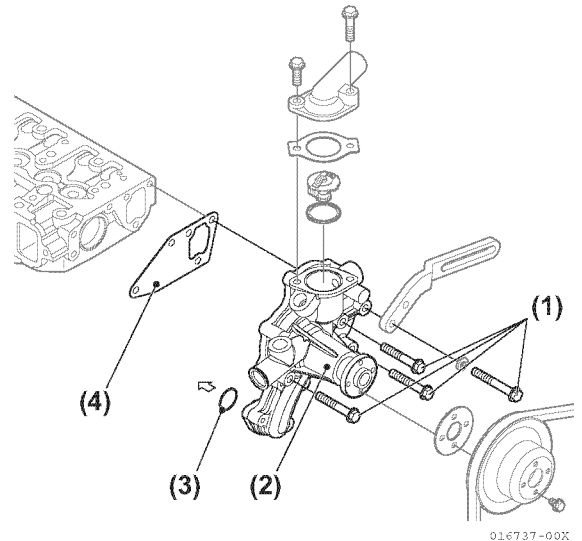

Figure 7-28
5. Remove four bolts (**Figure 7-28, (1)**) and remove coolant pump (**Figure 7-28, (2)**). **NOTICE:** Use caution when removing old gasket to avoid damage to the sealing surface of the cylinder block.
6. Remove the old gasket (**Figure 7-28, (4)**) and clean any material off from cylinder head. **NOTICE:** NEVER disassemble coolant pump. It is difficult to disassemble and, once disassembled, even more difficult to reassemble. Replace coolant pump assembly as necessary.
7. Check new gasket (**Figure 7-28, (4)**) and new O-ring (**Figure 7-28, (3)**) fit on cylinder head and cylinder block before proceeding.